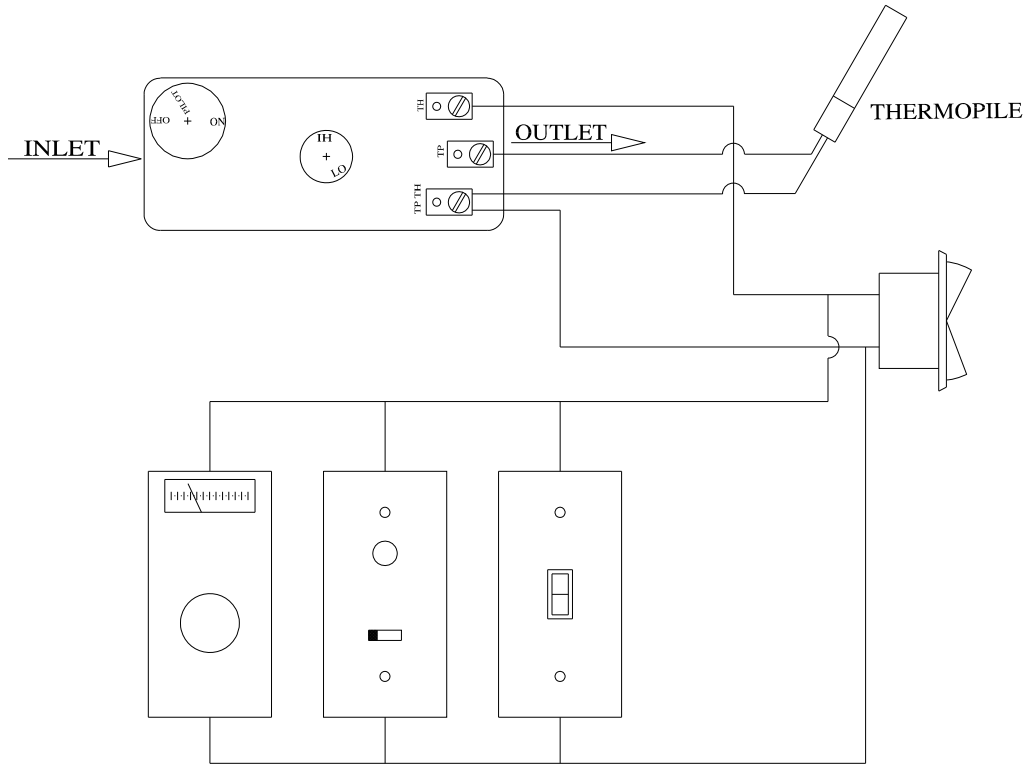
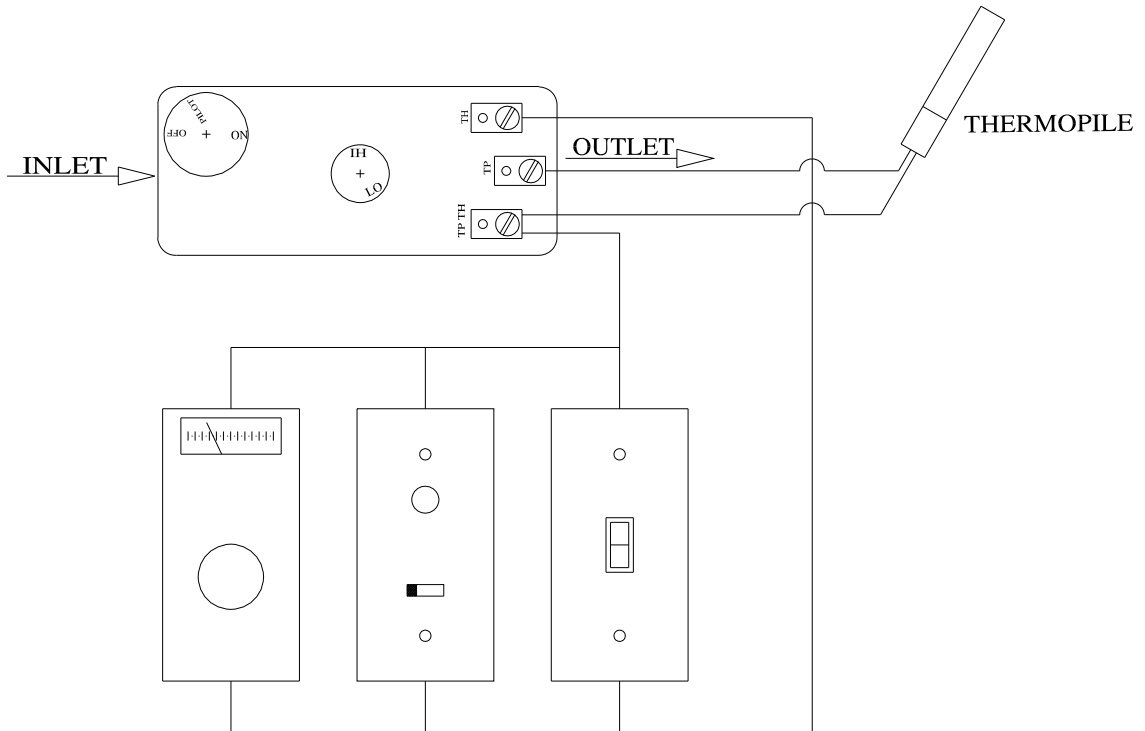

Figure 11a
Figure 11b
1. Mount the thermostat or wall switch in the desired location and run **"two conductor thermostat wire"** to the burner control switch (Figure 11a). To bypass the burner control switch, run the wires directly to the gas valve (Figure 11b).